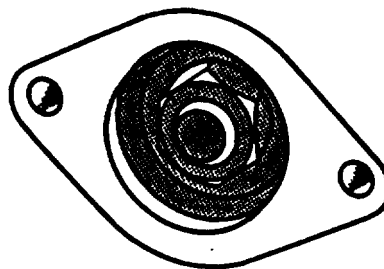

FIGURE 3-43. Fuel Infection Pump Gear Access (Cover Removed)
- i. Remove injection pump cover plate from timing gear cover, refer to FIGURE 3-43, cover shown removed.